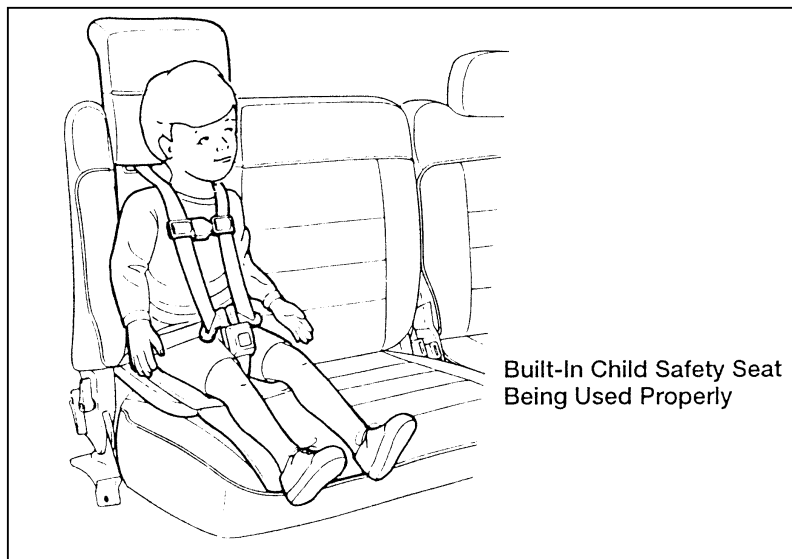

Figure 14: Built-in child seat properly being used
12. When properly used, the child safety seat should look like Figure 14.